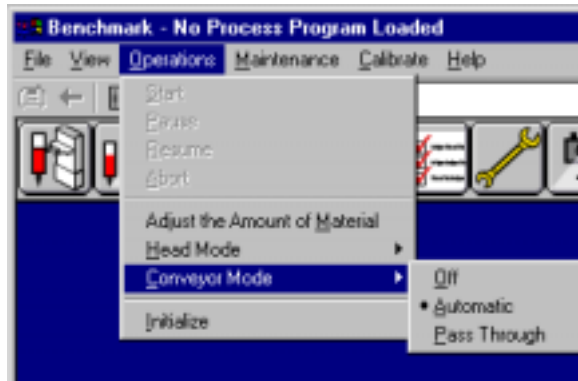

Figure 5-4
1. Select **Operations > Conveyor Mode > Automatic** from the **Machine screen**. See Figure 5-4.